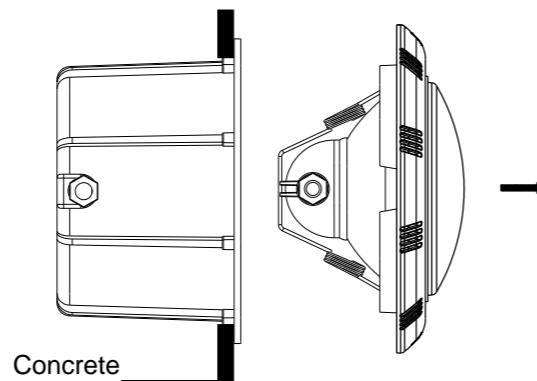

Figure 2.
- 3) If pool surface is to be plastered, you must allow proper concrete cutback for plaster thickness. Finish concrete surface must be flush with Mounting Spacer. CAUTION: Finish area surrounding Mounting Spacer MUST be flat and flush with the face of Mounting Spacer, this ensures a snug fit between light and wall, see Figure 2.
- 10) Rotating Locking System ensures light is secured to bracket, see Figure 2.